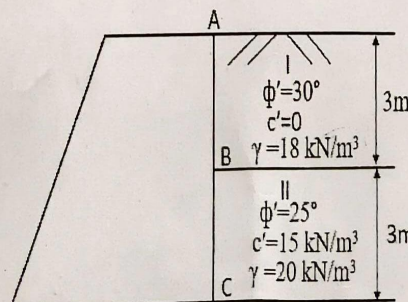

Fig.1
- Determine the Rankine passive force per unit length of the wall as shown in Fig. 1. CO2